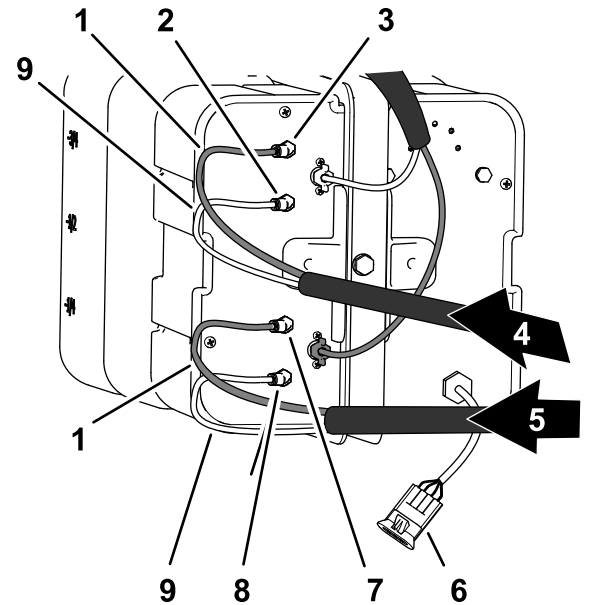
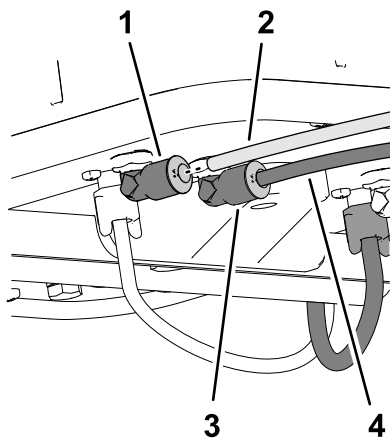

Figure 141
Figure 142
1. Route the foam tubes for the right boom as shown in Figure 141.
2. Insert the clear tube into the air fitting at the side compressor plate (Figure 141 and Figure 142).
3. Insert the blue tube into the liquid fitting at the side compressor plate (Figure 141 and Figure 142).
4. Route the foam tubes for the left boom as shown in Figure 141.
5. Insert the clear tube into the air fitting at the side compressor plate (Figure 141 and Figure 142).
6. Insert the blue tube into the liquid fitting at the side compressor plate (Figure 141 and Figure 142).